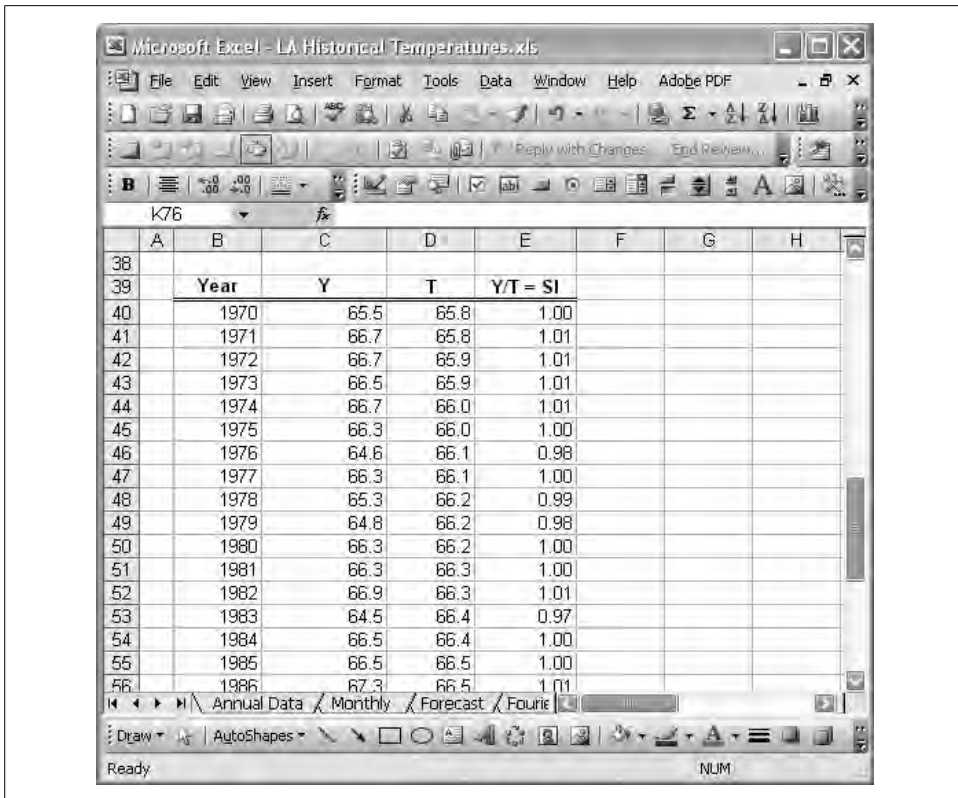

Figure 6-21. Detrending example spreadsheet
the computed trend value (T) to yield the detrended series (SI). Figure 6-21 shows a portion of the spreadsheet I set up to perform these calculations for the example temperature series.